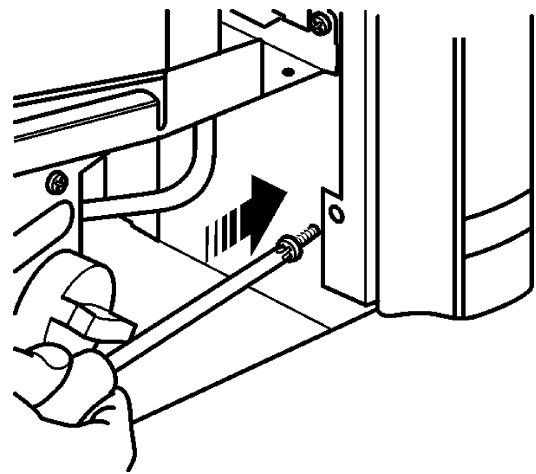

Figure 35. Bolero Fascia bottom location.
2. Fix the bottom of the fascia unit to the convection box with two screws (See figure 35).